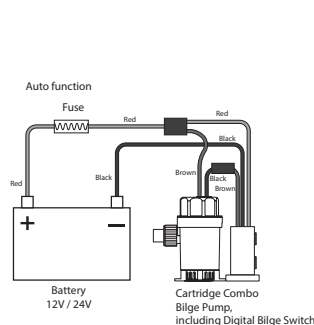

Fig. 2
6. Wiring diagrams for automatic operation in figure 2.